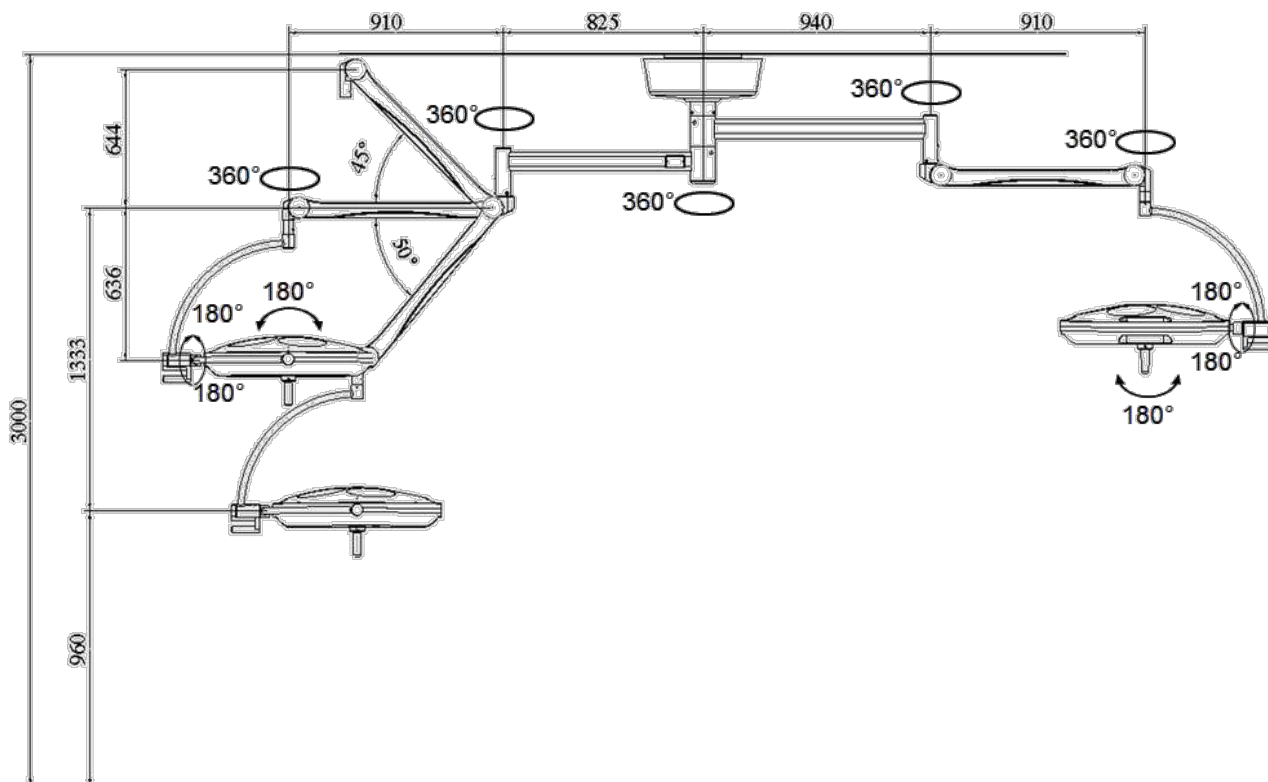

FIGURA 22 – FOCO CIRÚRGICO DUPLO DE TETO INP-MASTER
- Figura 22 para o Duplo INP-MASTER;